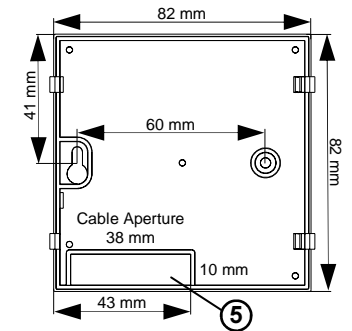

Fig. 2.
2. Fissare la base del termostato alla parete tramite le due sedi per viti con interasse 60 mm (Fig. 2).
2. Fix the thermostat base plate to the wall through the two screw holes with distance between axes of 60 mm (Fig. 2).